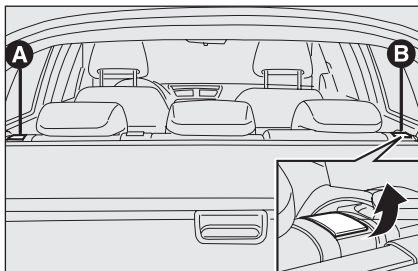

fig. 102
- ❑ lift handle **A** or **B**-fig. 102 to unlock respectively the left or right section of the backrest and then guide the backrest onto the cushion.
- ❑ lift handles **A** and **B**-fig. 102 to release the backrests and guide them onto the cushion.